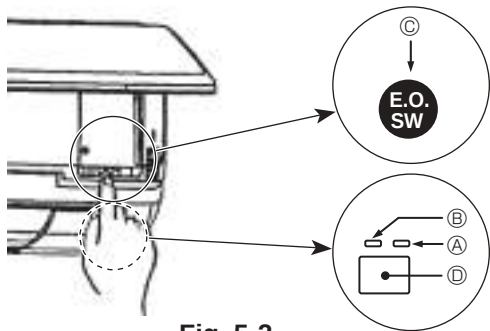

Fig. 5-2
- To stop operation, press the button ④ or the button ③ for more than 2 seconds.
- [Fig. 5-2] ① DEFROST/STAND BY lamp (Orange)
② Operation lamp (Green)
③ Emergency operation switch (cooling/heating)
④ Receiver
- Check “COOL/HEAT” with the operation monitor display. (The orange lamp ① follows this monitor display for 5 seconds after pressing the emergency operation switch.)